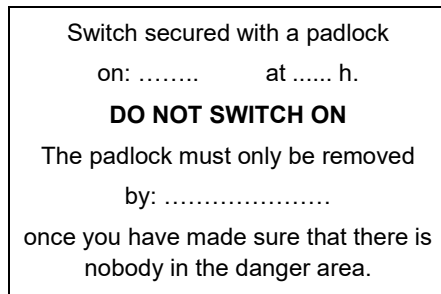

Fig. 2
2. If possible, secure the switch with a padlock and attach a clearly visible sign to the switch Fig. 2.